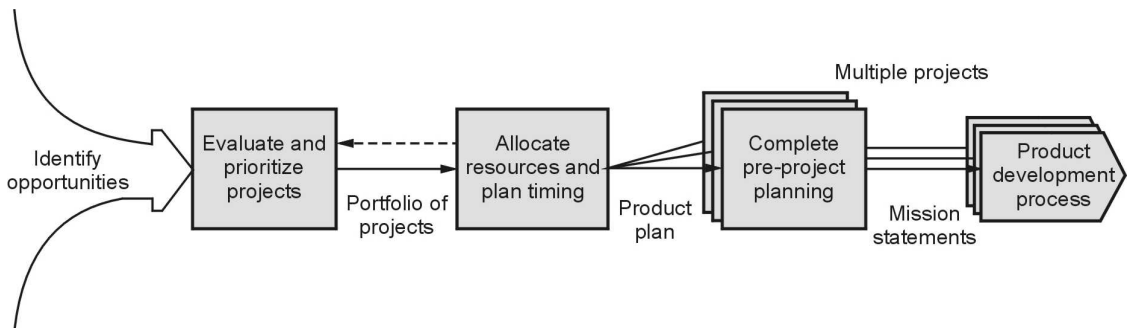

Fig. 6.3.1 Product planning process
- The steps in the product planning process are shown in above Fig. 6.3.1.